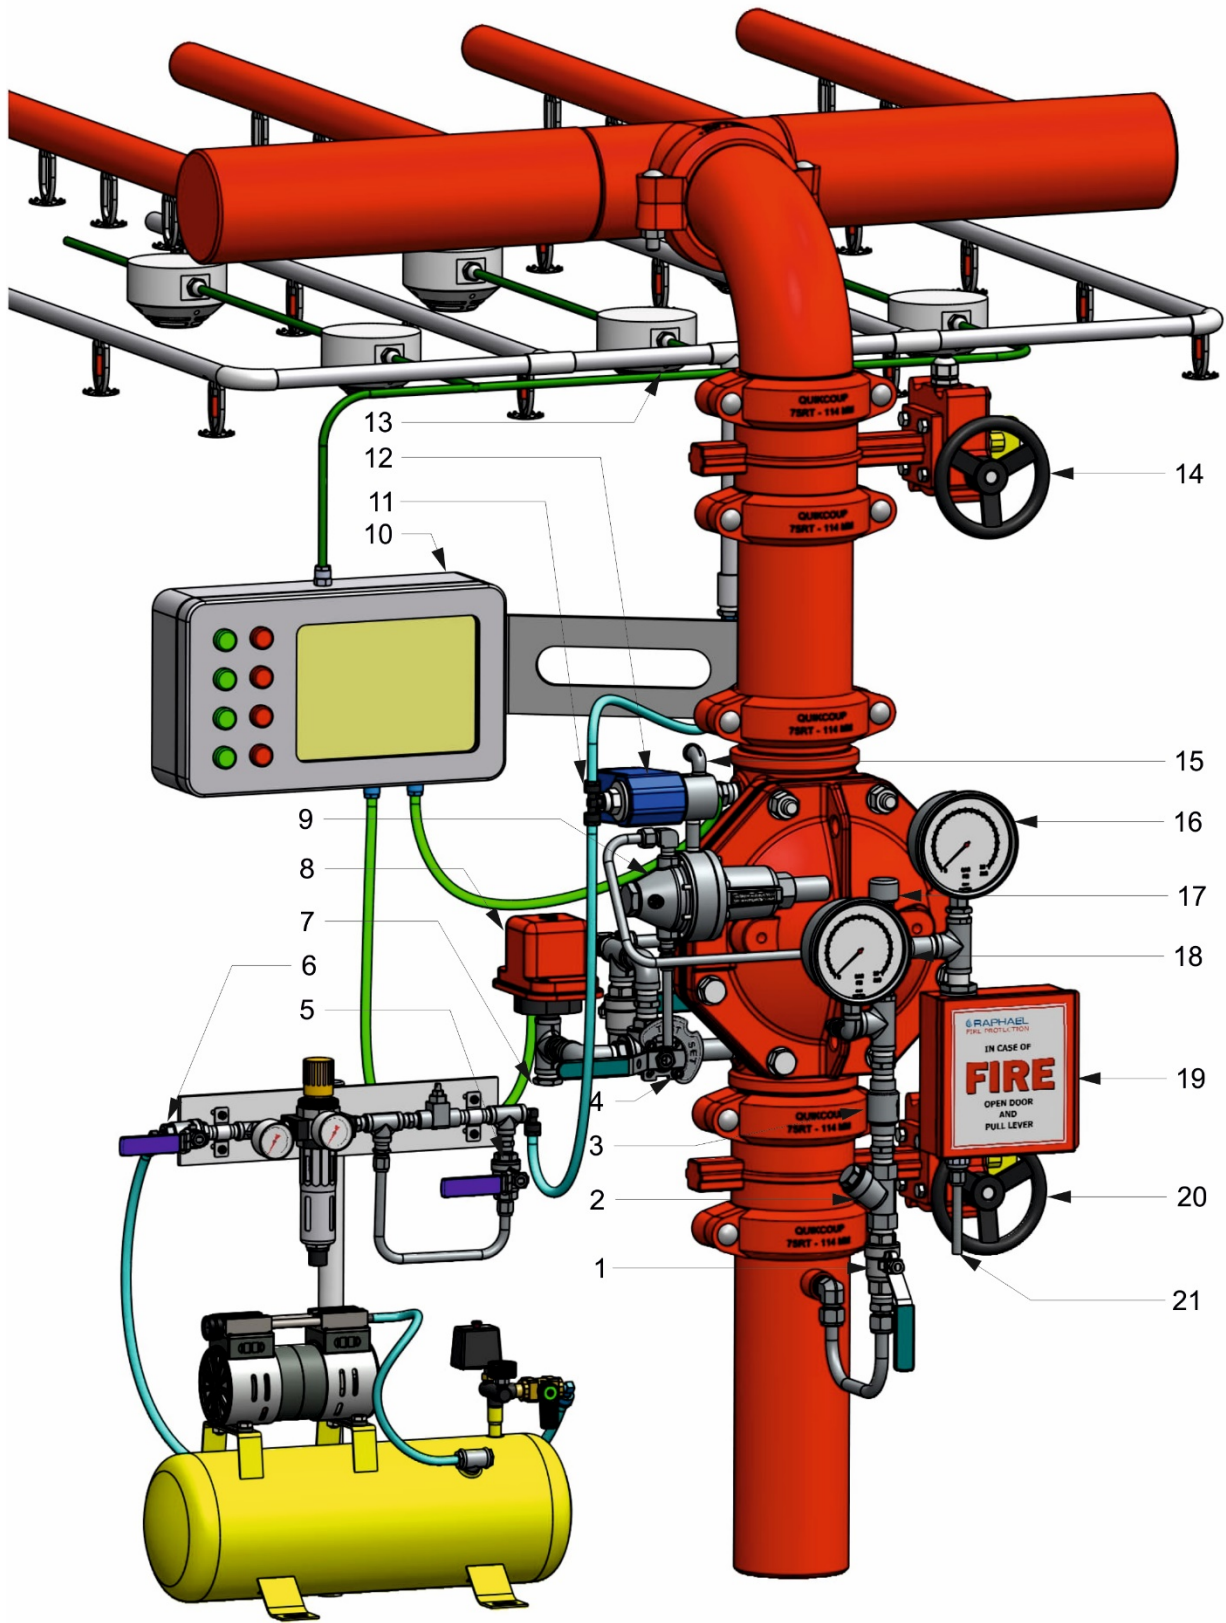

Fig 2.
Installation (Reference Figure 2)
8. All connections to water supply, should be done in accordance with figure 2
(reference - figure 2)
The procedure described should be carried out after system installation completion and a comprehensive inspection. (Reference Drawing - figure 2)
Fire Situation Simulation (Reference Drawing - figure 2)
(Reference drawing - figure 2)
Resetting & placing in service (Reference Drawing - figure 2)